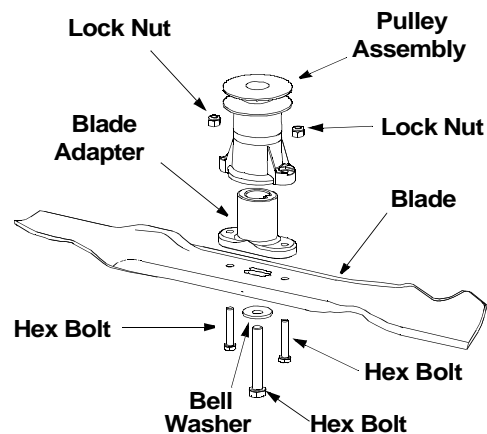

Figure 17
- Remove the bolt and bell washer which hold the blade-pulley assembly to the engine crankshaft. See Figure 17. Remove assembly from crankshaft.
- Install the blade adapter on the pulley with the “star” away from the pulley. See Figure 17.
- Install the blade assembly on the crankshaft. See Figure 17. Secure with the hex bolt and bell washer (cupped side of washer to blade) and tighten to the recommended torque. Refer to 'Blade Mounting Torque' section on this page.